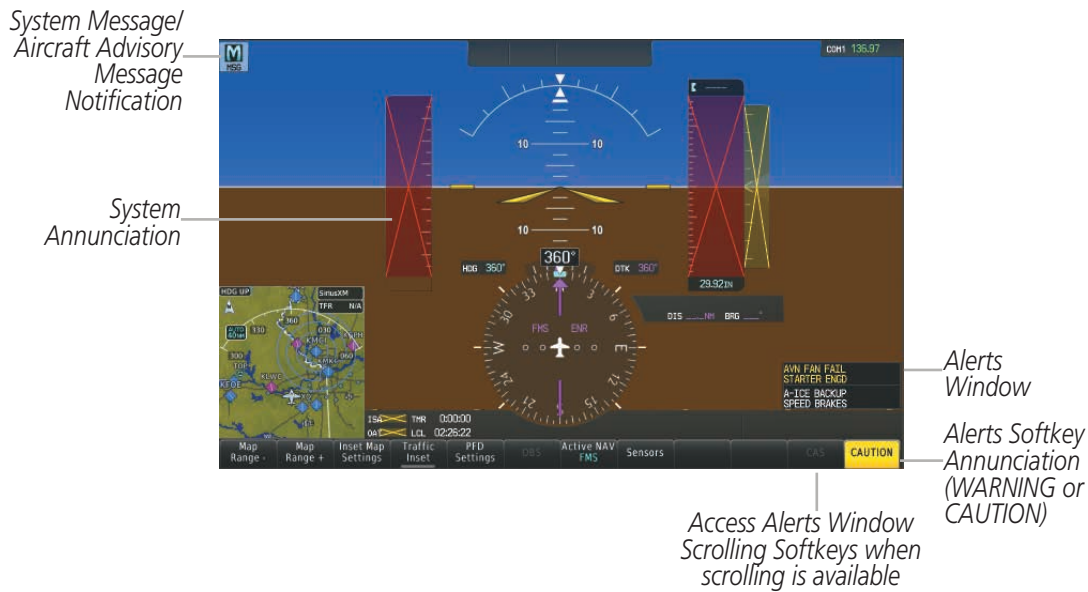

Figure A-1 G2000 Alerting System (PFD)
- **Alerts Window:** The Alerts Window (Figure A-1) automatically appears in the lower-right of the PFD when condition(s) warrant. The window contains abbreviated annunciation text. The text color is based on the alert levels described in the following section. Warning (red) and caution (yellow) annunciations cause a corresponding red WARNING or yellow CAUTION Softkey to flash until the alert is acknowledged by pressing the respective softkey. Advisory (white) annunciations do not have a corresponding flashing softkey or acknowledgement. All warning alerts appear within view in the Alerts Window, without the need to scroll. If there are more caution and/or advisory alerts than can be shown in the Alerts Window viewing area, a scroll bar appears in the window, and the **CAS** Softkey on the PFD becomes available. Press the **CAS** Softkey to display the second-level CAS Softkeys which allow for scrolling in the list of caution and advisory alerts, while the existing warning alerts remain at the top of the window. Press the **CAS Up** or **CAS Dn** Softkeys to scroll up or down respectively, or press the **Back** Softkey to return to the top-level PFD Softkeys. If a new warning or caution alert is issued while the Alerts Window is already displayed, the new alert appears at the top of the window, separated by a divider line from the existing alerts. After the new warning or caution alert is acknowledged, the alert appears at the top of its respective level of alerts, and the divider line is removed. Higher priority alerts are displayed toward the top of the Alerts Window.